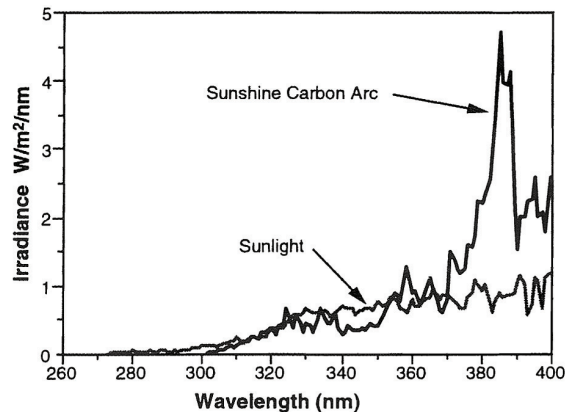

Figure 2 - Sunshine Carbon Arc and Sunlight
**Spectrum of Sunshine Carbon Arc.** Figure 2 shows the UV SPD of summer sunlight compared to the SPD of a sunshine carbon arc (with Corex Dfilters). Note the large spike of energy, much greater than sunlight, at about 390 nm.